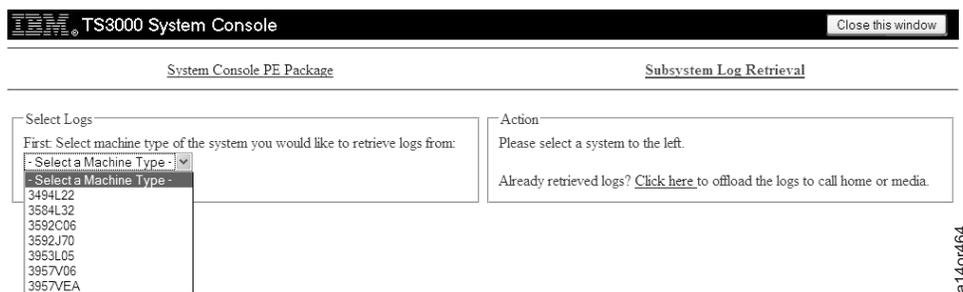

Figure 216. Subsystem Log Retrieval Menu
- Type **service** in the Username field, type **service** in the Password field, then click **OK** to start the Console Configuration application. You see the Console Configuration Application screen shown in Figure 216.
- Click the **Subsystem Log Retrieval** tab at the top of the page. You see Figure 216. Follow the instructions in the Select Logs box to select an attached system from which you would like to retrieve logs.